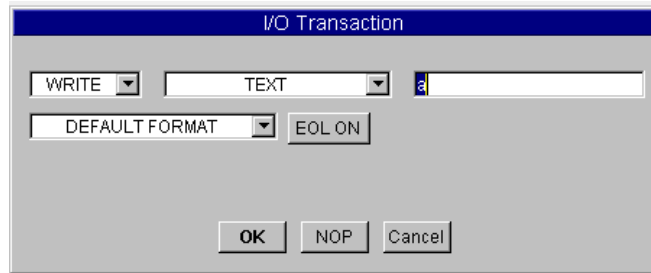

Figure 3-17. The I/O Transaction Dialog Box
1. In the `fgen (@(NOT LIVE))` object, double-click the transaction bar to get the `I/O Transaction` dialog box, as shown in Figure 3-17.